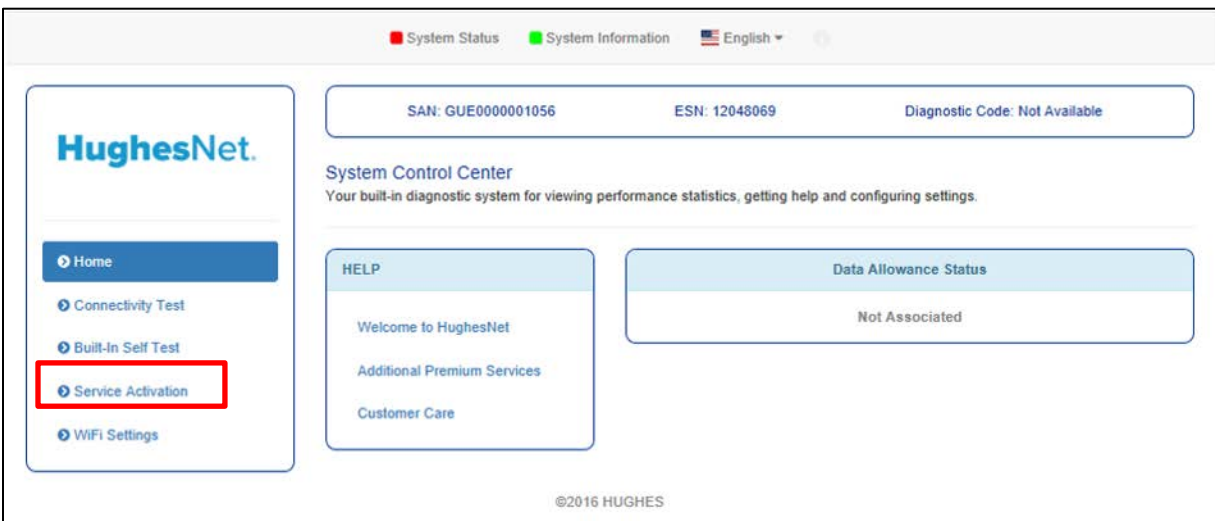

Figure 36: System Control Center home page
1. Use an Ethernet cable to connect the satellite modem to the customer's computer as shown in Figure 36.
- b. Connect the Ethernet cable to the LAN port on the customer's PC or other device as shown in Figure 36.